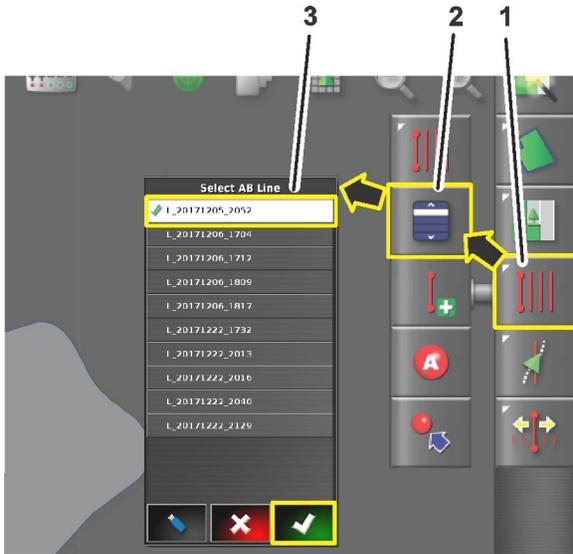

Figure 19
1. Press the guideline menu icon (Figure 19).
2. Press the select guideline icon (Figure 19).
4. For straight or curved guidelines, press the select guidance icon (Figure 19) for an AB or the curved guideline.
5. Press the desired guideline name box and press the confirm icon (Figure 19).